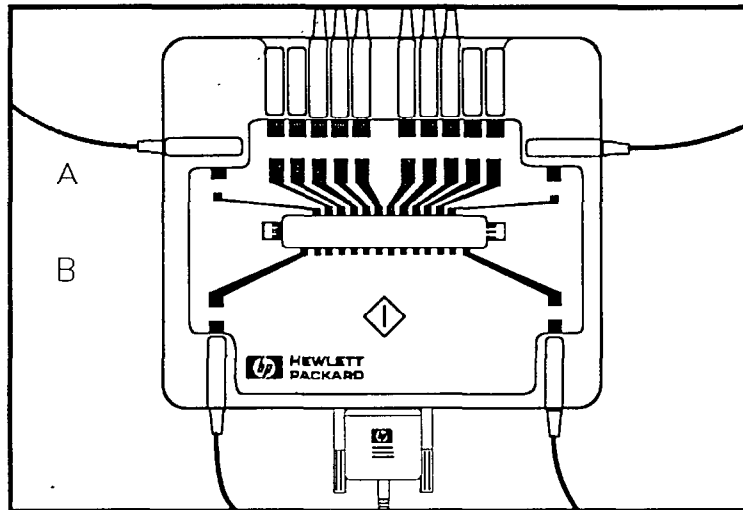

Figure B-1. Connecting the Patient Module.
2. Connect the other end of the patient data cable to the patient module as shown in Figure B-1.